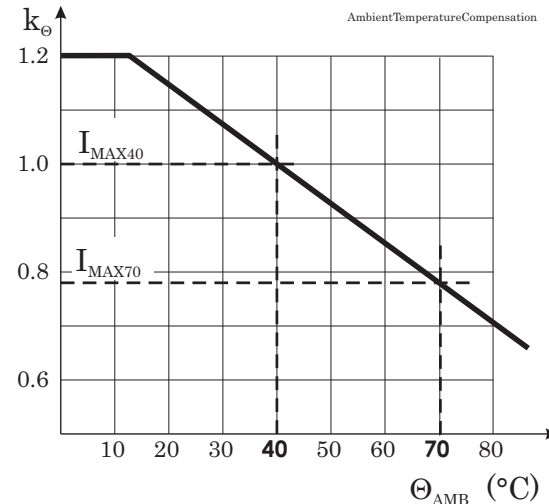

Figure 2.16-1 Ambient temperature correction of the overload stage T>.
- k_{Θ} = Ambient temperature factor (See Figure 2.16-1)
The value of ambient temperature compensation factor k_{Θ} depends on the ambient temperature Θ_{AMB} and settings I_{max40} and I_{max70} . See Figure 2.16-1. Ambient temperature is not in use when $k_{\Theta} = 1$. This is true when